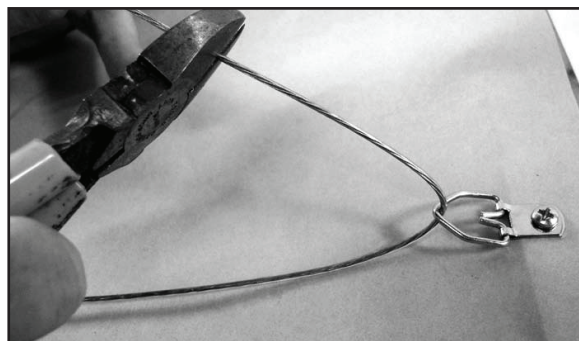

Fig.4
3. Remove nose piece and discard jammed point (**Fig. 4**)
4. Using water in a spray bottle, completely dampen Kraft paper evenly. As water dries, the paper will shrink tight. **(Fig. 4)** **NOTE:** Use a hairdryer to decrease drying time.
Stretch the wire across to the other hanger and pull it taut. Allow for about 3-5 inches of wire to feed through the D-Ring on the opposite side. Clip off the excess wire (**Fig. 4**) and coil the remaining wire around itself several times.